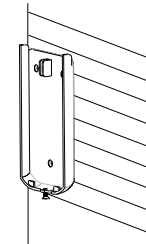

FIGURE 6
3. Using the rear cover as a template, mark the positions of three fixing holes on the wall. Fasten the rear cover to the wall using the screws and wall plugs provided (FIGURE 6).